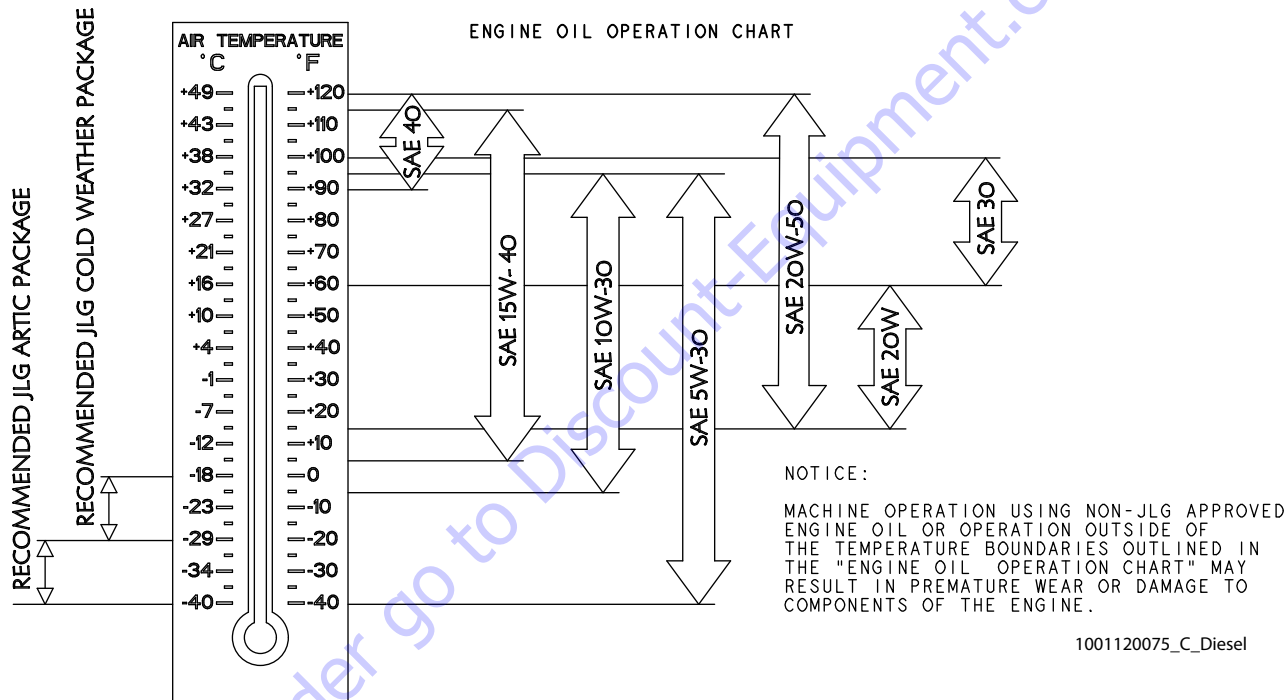

Figure 6-3. Engine Oil Operating Temperature Specifications - Kubota (Diesel Engine)
- Lube - EO - Minimum API CF (For viscosity, refer to Figure 6-3.)
- Check oil level daily, maintain within marked level (1)/Change in accordance with engine manual.